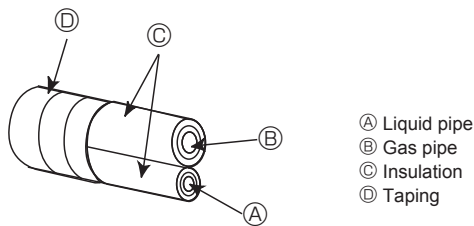
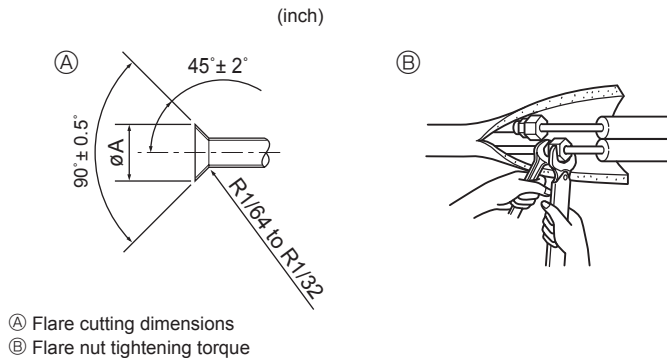

Fig. 4-4
Fig. 4-5
4.3. Connecting pipes (Fig. 4-4, Fig. 4-5)
[Fig. 4-5]
① (Fig. 4-5)